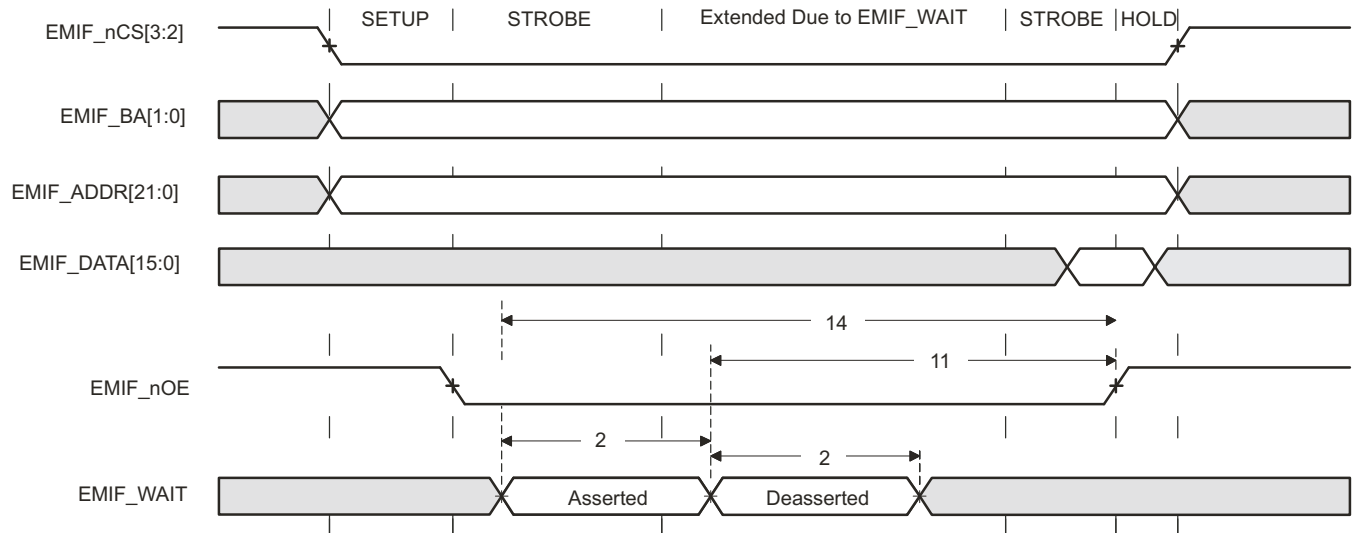
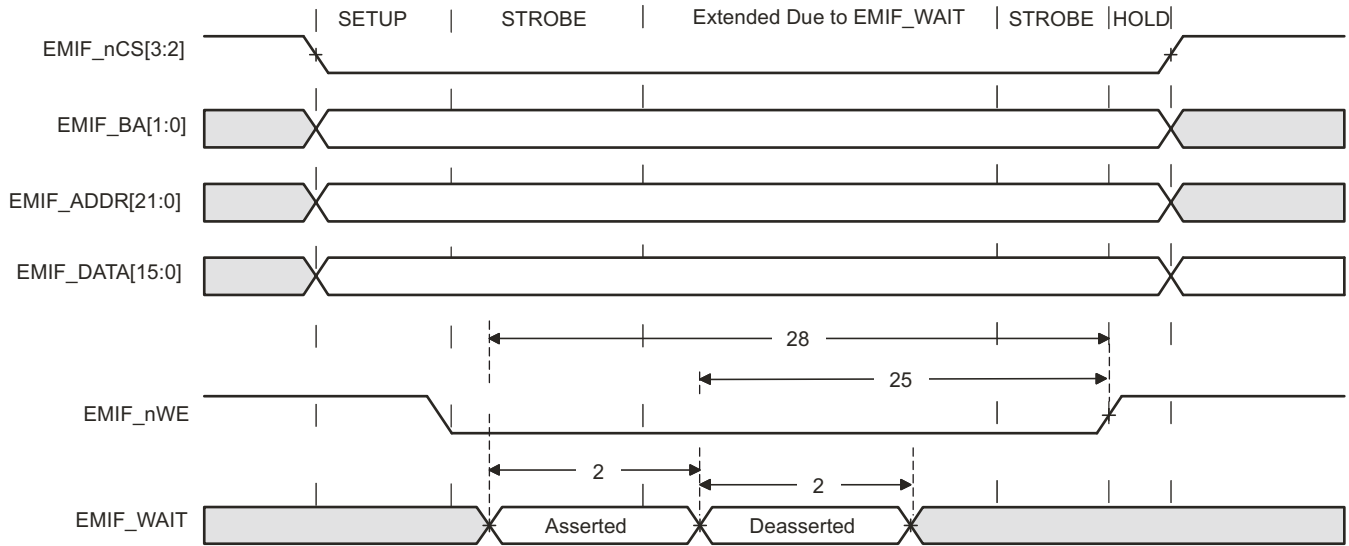

图 6-12. EMIFnWAIT Read Timing Requirements
图 6-14. EMIFnWAIT Write Timing Requirements
- (1) Setup before end of STROBE phase (if no extended wait states are inserted) by which EMIFnWAIT must be asserted to add extended wait states. Figure 图 6-12 and Figure 图 6-14 describe EMIF transactions that include extended wait states inserted during the STROBE phase. However, cycles inserted as part of this extended wait period should not be counted; the 4E requirement is to the start of where the HOLD phase would begin if there were no extended wait cycles.